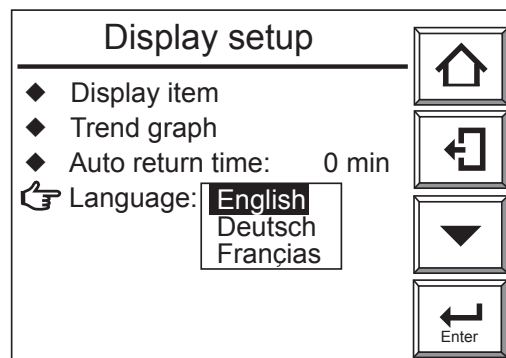

Figure 10.7 Selecting the Display Language
- (1) On the Basic panel display, touch the [Setup] key to display the Execution/Setup display.
- (2) Select "Maintenance", then "Display setup".
- (3) Select "Language" and the dropdown selection (Figure 10.7) allows you to select the desired language.